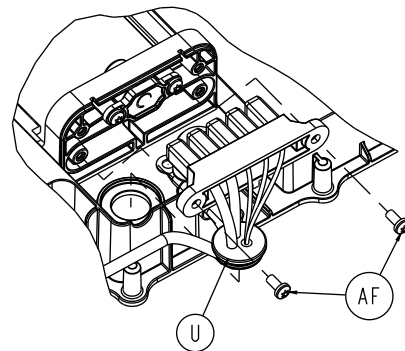

Figure 23 – Remove the battery power/comm cable assembly screws
7. Using a T20 Torx driver, remove the two pan head tapping screws (AF) that secure the battery power/comm cable assembly (U) (Figure 23). Save the screws.